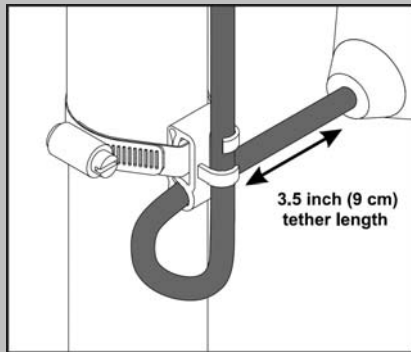

Figure 3
- Mount float switches at appropriate levels as illustrated in **Figures 3 & 4**. Be sure that floats have free range of motion without touching each other, or other equipment in the basin.